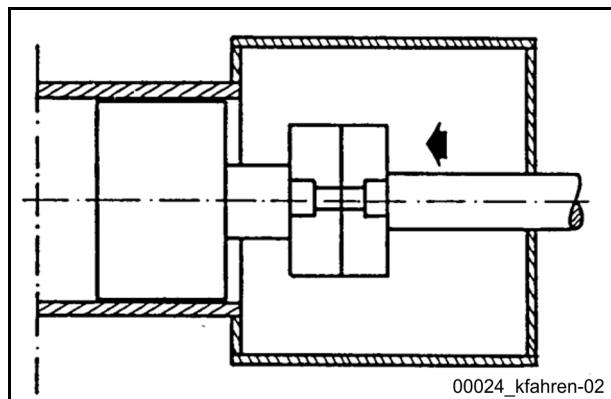

Fig. 350 Retract pumping piston
- Move the pumping piston into the cylinder far enough that the screw connection can still be loosened (**Fig. 350**).